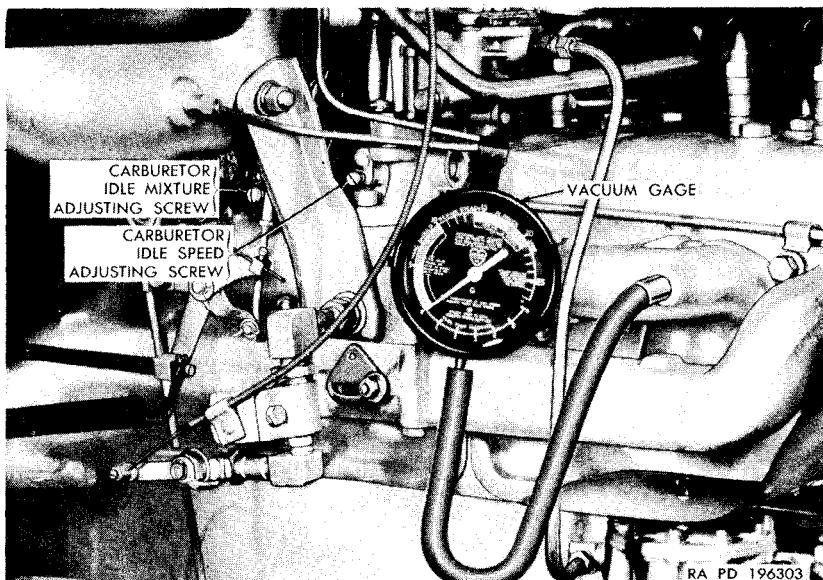

Figure 70. Manifold vacuum test
the gage hose to the fitting and hang the gage in a convenient spot for reading, as shown in figure 70.
- (2) Start the engine and run at idling speed until normal operating temperature is reached.
- (3) Adjust the carburetor idle speed adjusting screw (fig. 70) until the desired engine idle speed is obtained. Turn the carburetor idle mixture adjusting screw (fig. 70) in either direction slowly until maximum vacuum gage reading is obtained. It may be necessary to reset the carburetor idle speed after adjusting the idle mixture.
c. *Interpretation of Vacuum Gage Reading.* The pointer of the vacuum gage should be steady and show a reading of 17 to 21 inches at sea level. At higher altitudes, the reading will be less than that at sea level, decreasing approximately $3\frac{1}{2}$ inches for each 5,000 feet increase in altitude. A fluctuating gage pointed, after (1) through (8) in paragraph 110b, and b(2) and (3) above have been performed, indicates insufficient valve tappet clearance or a leaky cylinder head gasket. Adjust valve tappets (par. 113), replace the cylinder head gasket (par. 115), or notify ordnance maintenance personnel. An abnormally low reading, with steady pointer, indicates faulty manifold or manifold gaskets. Replace the intake manifold and/or manifold gaskets as required (par. 114).